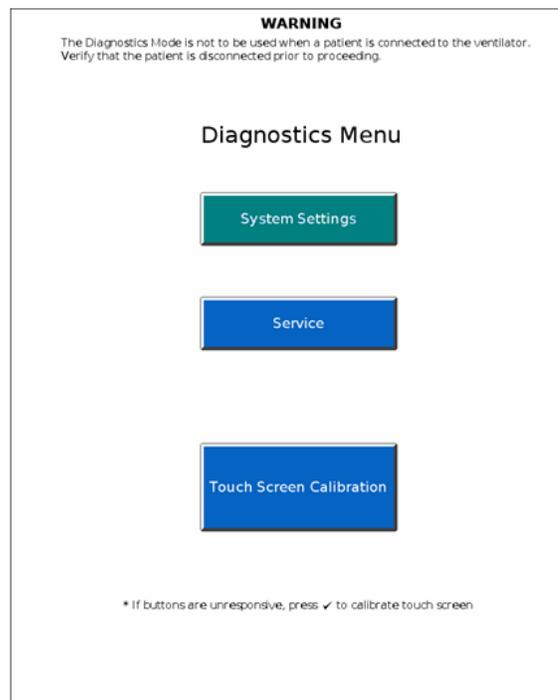

Figure E-1: Diagnostics Menu
3. Within less than 5 seconds, release and press the Accept button again. The Diagnostics Menu (Figure E-1) is displayed.